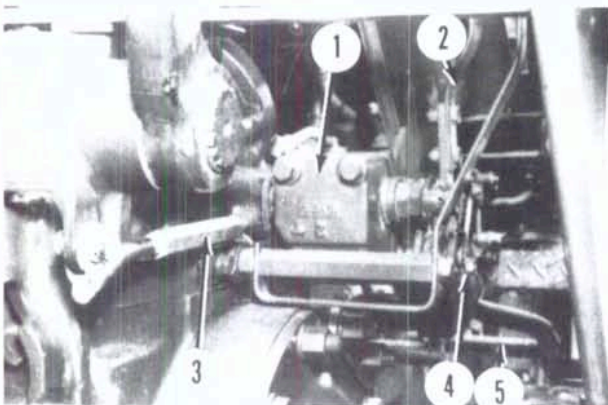

Fig. 170—Draft control valve (models so equipped) is mounted on right side of rockshaft housing.
**126. R&R AND OVERHAUL.** To remove draft control valve (1—Fig. 170), proceed as follows: Disconnect feedback rod (3) and remove control lever (2). Remove differential lock pedal (5) and bracket (4). Unbolt and remove valve assembly.